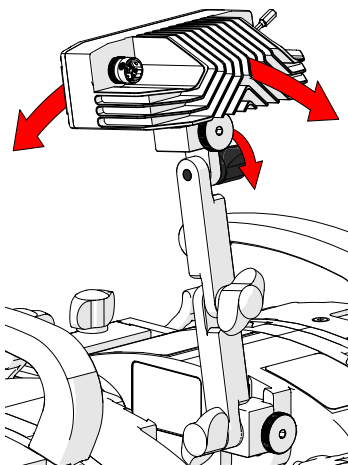

Fig. 24 - Adjust camera angle
5. Loosen the top wing knob to adjust the camera angle (Fig. 24).